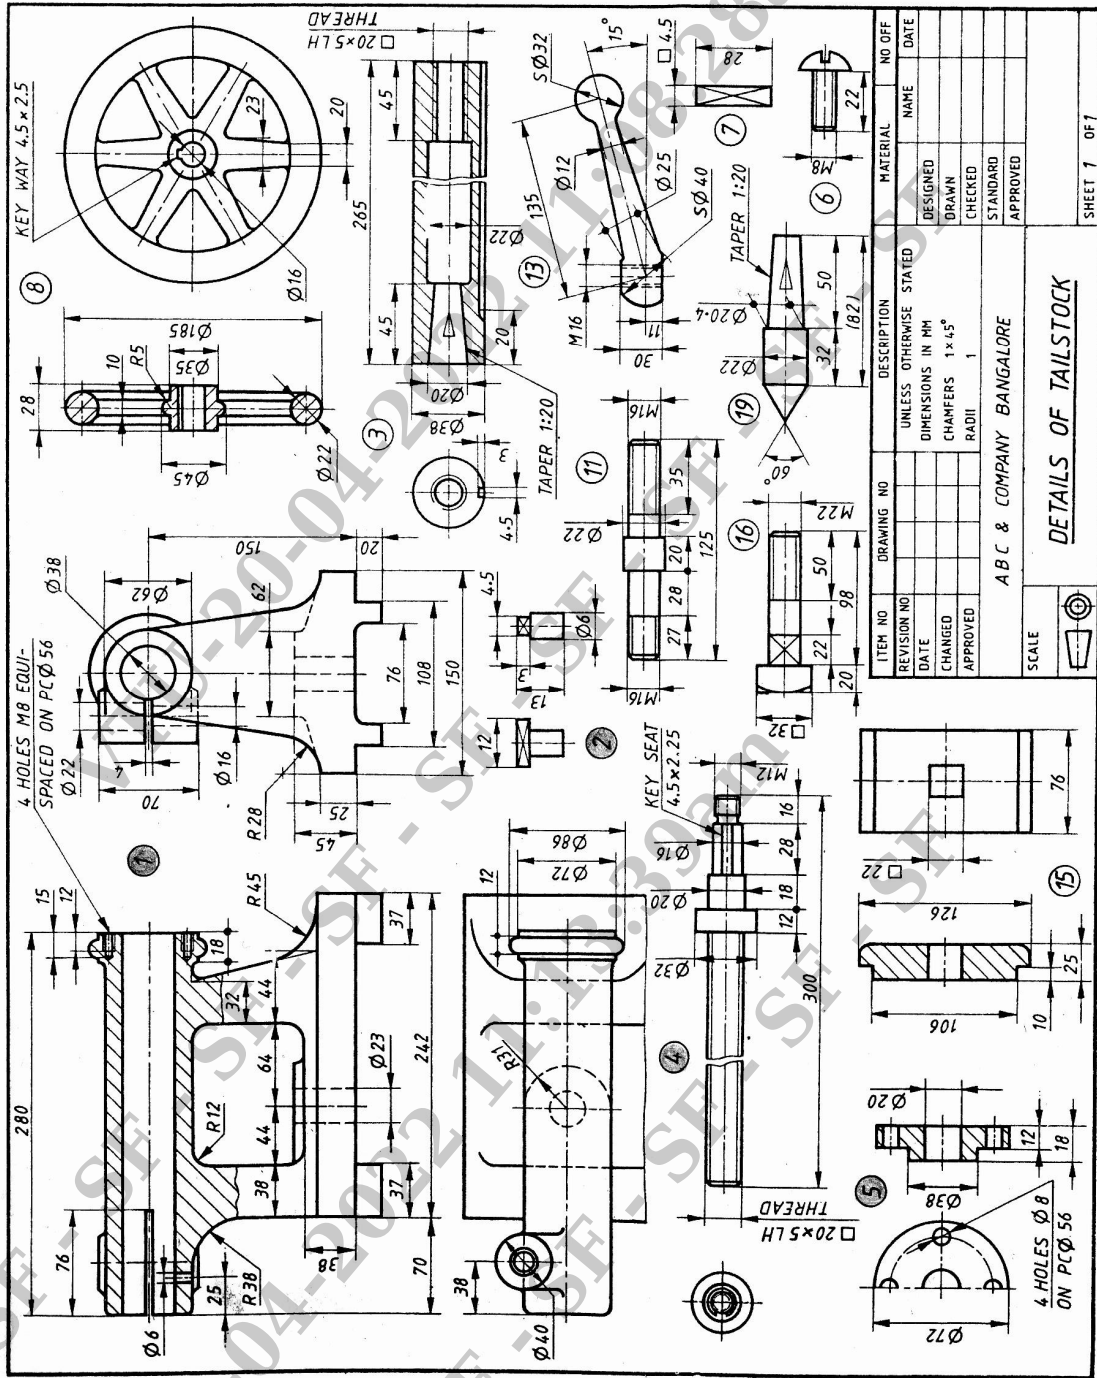

Figure 3 : Details of a tail stock.
6. Figure 3 shows the part drawing of a tail stock. Assemble the tail stock and show the following views.